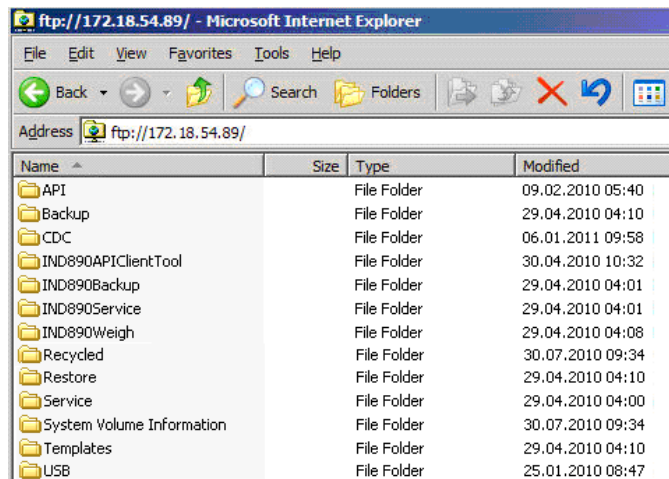

Figure B-8: Internet Explorer FTP Window
3. Internet Explorer then displays the directory structure of the IND9xx (Figure B-8).